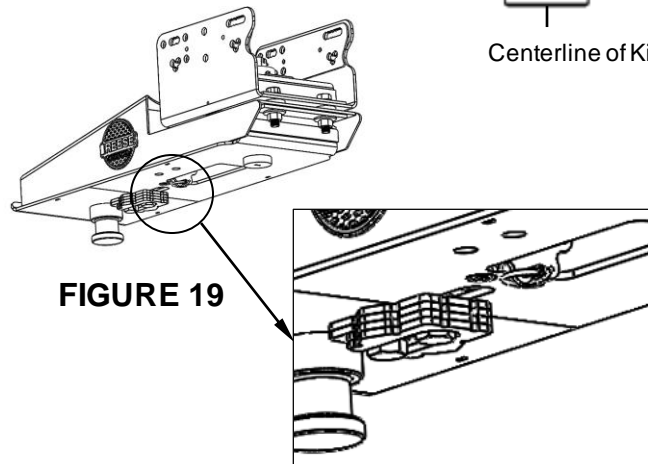

FIGURE 19
8. Once tight (wedge fully inserted into funnel opening), attach pin into handle to secure wedge in place (Figure 19).